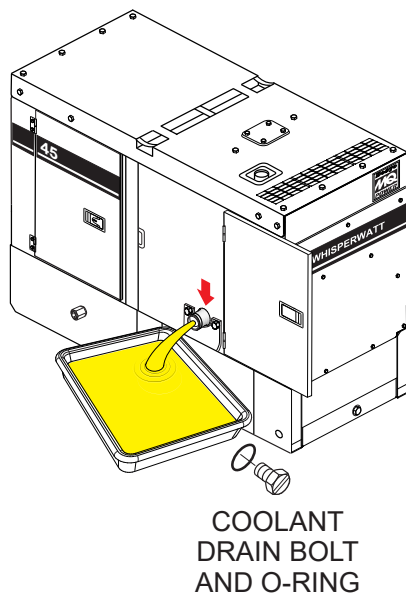

Figure 73. Draining The Engine Coolant
2. Open the cabinet door and remove the **coolant drain bolt** and **O-ring** (Figure 73), then allow the coolant to drain into a suitable container.